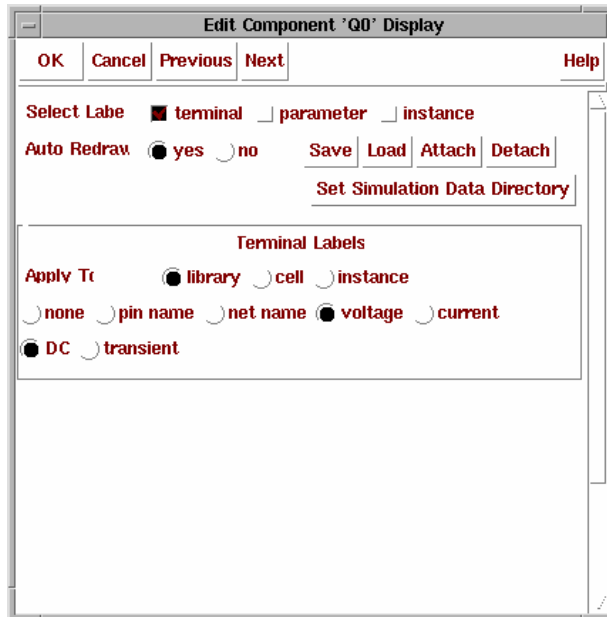

Figure 8-3. *Edit Component 'Q0' Display* form showing DC Voltage
4. Click the *terminal* checkbox from the *Select Label* options. Notice that the form now displays a *Terminal Labels* section. This section shows that DC and voltage is currently selected as seen in Figure 8-3.